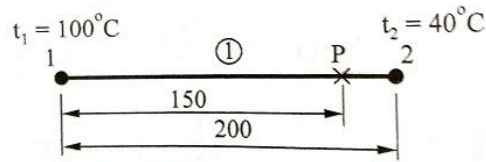

Figure: 3
- Q-5 a. Temperature at Node 1 is 100°C and at Node 2 is 40°C . The length of the elements shown in Figure 3 is 200mm. Evaluate the shape function associated with Node 1 and Node 2. Calculate the temperature at point 'P' situated at 150 mm from Node 1. Assume a linear shape function. 07